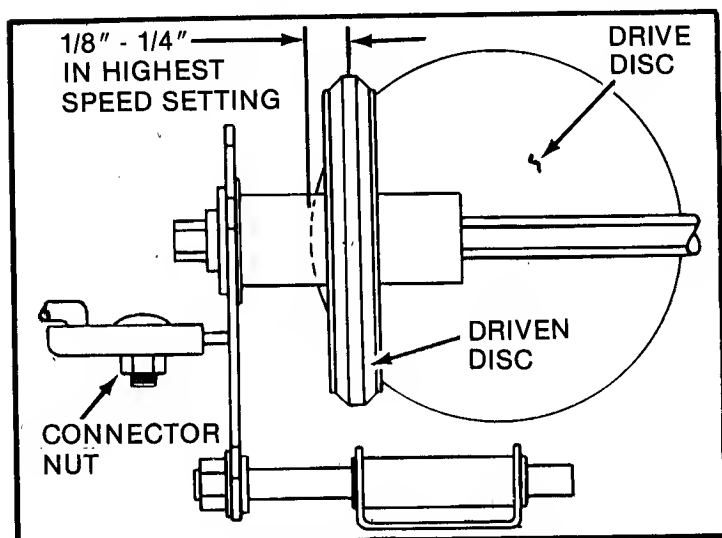

FIG 9 - DRIVEN DISC COMPONENTS
**DRIVEN DISC ADJUSTMENT:** With the engine stopped and the speed lever shifted into highest speed setting, the driven disc should be  $1/8"$  to  $1/4"$  from the center of the drive disc as illustrated in Figure 9. Readjust with engine stopped as follows: Shift the speed selector into the highest speed setting, loosen the connector hex nut and slide the driven disc assembly inward or outward until the center is  $1/8"$  to  $1/4"$  from the edge of the drive disc. Retighten connector nut to lock at new setting.